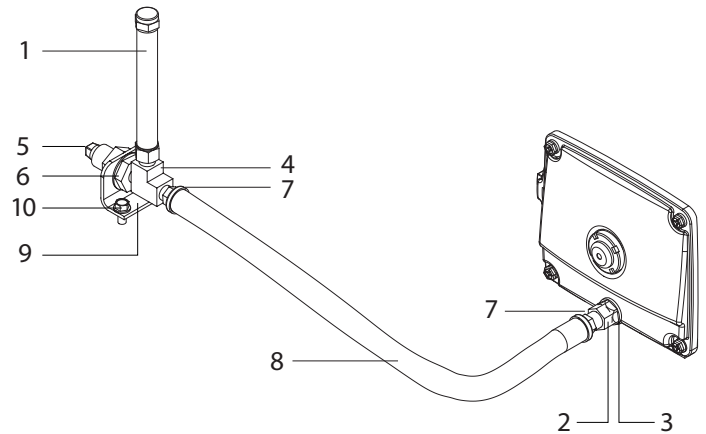
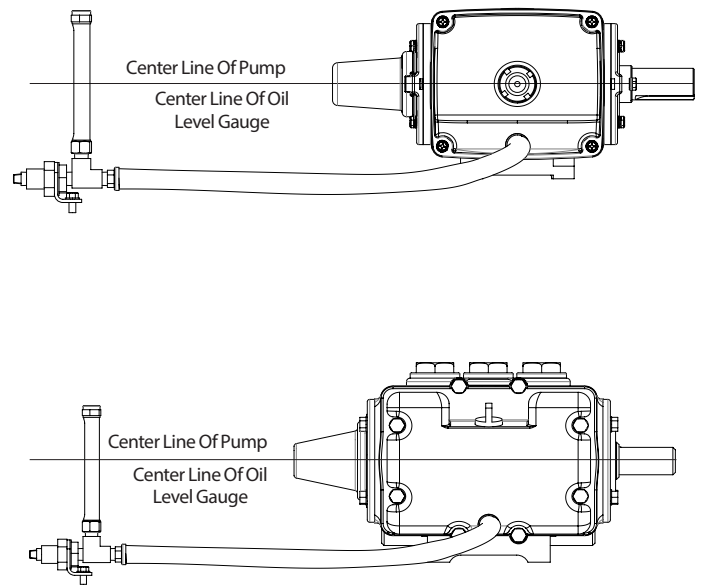

Figure 2
Figure 3
3. Install 1/4" BSP fitting (Figure 2, item 2) with O-ring (3) into rear cover of pump.
4. Attach hose barbs (7) to each end of 3/8" hose (8).
5. Thread one end of hose (8) into fitting (2) of rear cover.
6. On opposite end of hose (8), thread in tee (4). Position tee (4) with female threads up.
7. Remove nut from 1/4" union fitting (6).
8. Thread in hose (8) with tee (4) to large end of union fitting (6).
9. Mount bracket (9) with screws (10) into desired position such that the centerline of the sight area of the crankcase oil gauge (1) is at the same center line of the pump (See Figure 3).
10. Install hose assembly through mounting bracket (9).
11. Reinstall nut onto threads of union fitting (6) and tighten.
12. Thread in square end plug (5) into open end of union fitting (6).
13. Thread in crankcase oil level gauge (1) into open port of vertical leg of tee (4).